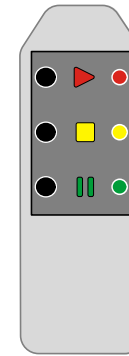

Figure 3
1.4.6 Remote Control 3 (see figure 3) purpose is only for certification works of the Tester (primary or periodical).